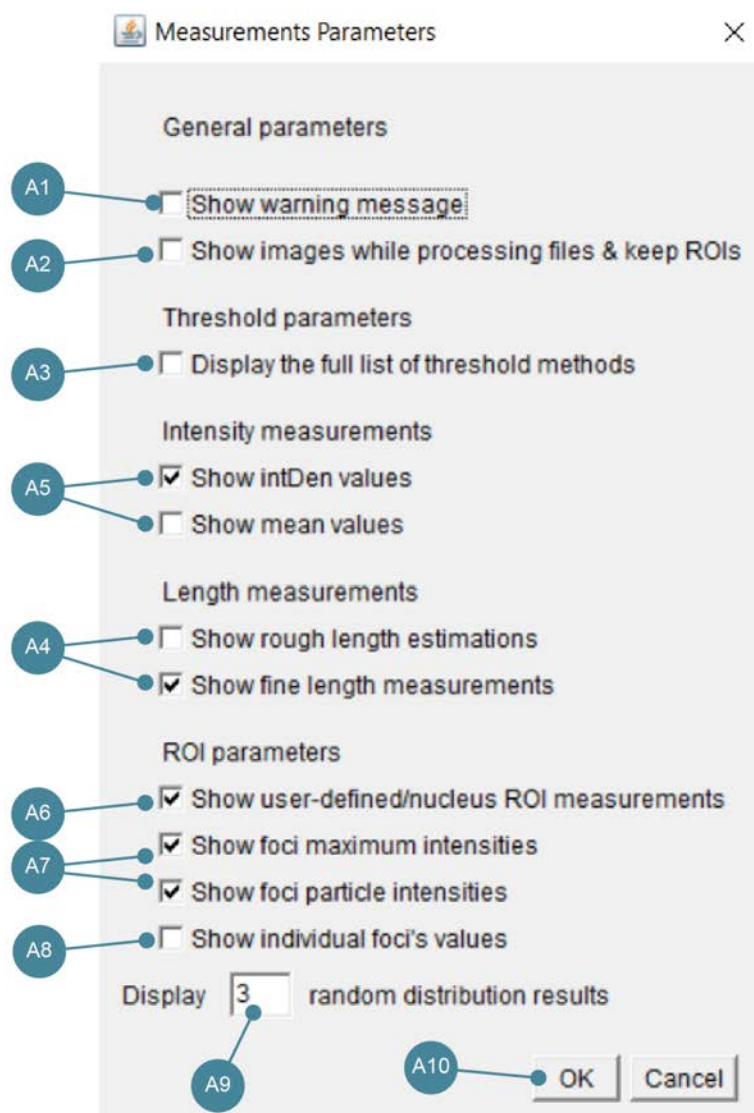

Figure 7.14. The (general) parameters window.
**OPTIONAL STEP A.** Configure the measurement parameter options. Before using the "Count axis/off-axis foci in two channels and colocalise" tool, click on the "Set measurement parameters" button (see figure 0), which will open the Parameters menu (refer to figure 7.14).